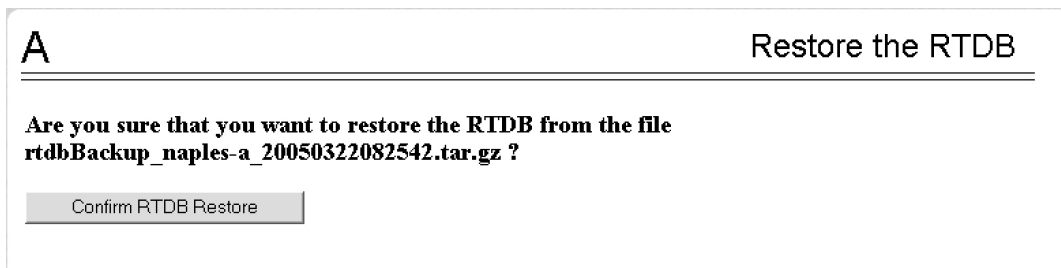

Figure 24: Restore the RTDB Confirm
- To confirm restoring a file, click **Confirm RTDB Restore** shown in the screen for RTDB in Figure 24: Restore the RTDB Confirm: